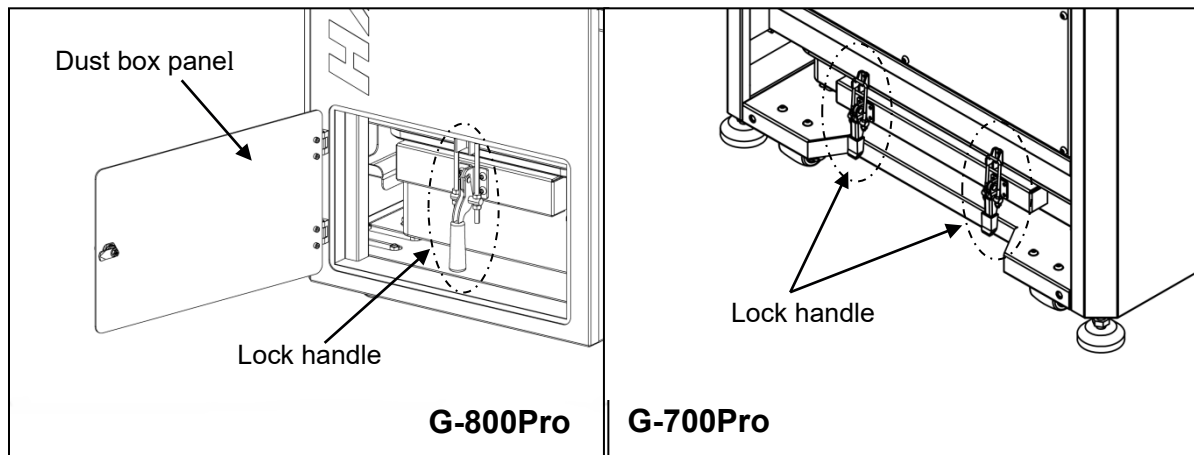

Fig. 16
The dust box of G-800Pro is located on the front of the machine, while that of G-700Pro is on the side of the machine, as shown in **Fig. 16**. To empty the dust box:
6.2 Cleaning the Dust Box *(Fig.16)*